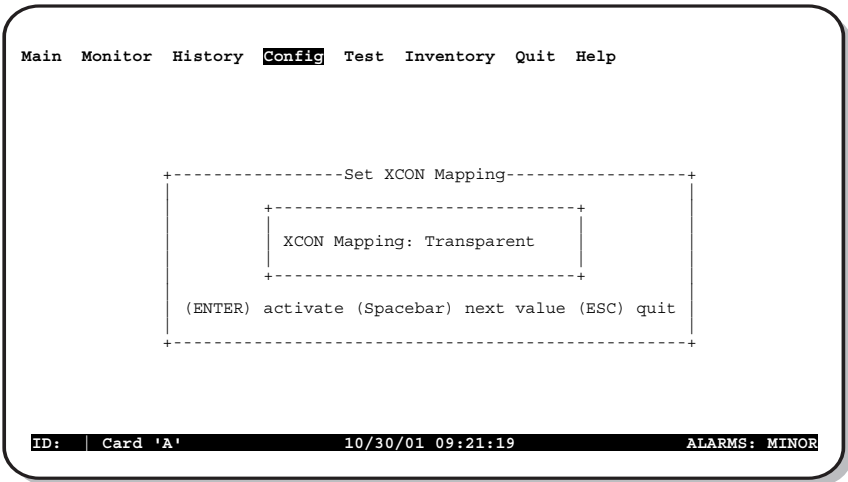

Figure 16. Config Menu: X-Connect
The HXU-359 supports two cross-connect mapping schemes, transparent and interleaved, that allow you to automatically configure 28 DS1 lines. The default configuration is interleaved mapping. Figure 16 on page 24 and Figure 17 on page 25 show the two different mapping schemes.
To determine the current mapping mode, view the Services submenu under Config and note the VT and VG mapping relationships. Figure 16 on page 24 and Figure 17 on page 25 are graphical representations of transparent and interleaved mapping.
- 6 Select the Virtual Tributary Group (VTG) 1 through 7 and the Virtual Tributary Slot (VTS) 1 through 4. The cross-connection of tributaries allows mapping of any of the DS1 channels to any available time-slot location. Only available combinations are presented for selection. See Figure 16 on page 24 for the default SONET tributary mapping. Figure 17 on page 25 shows an M13 tributary mapping.